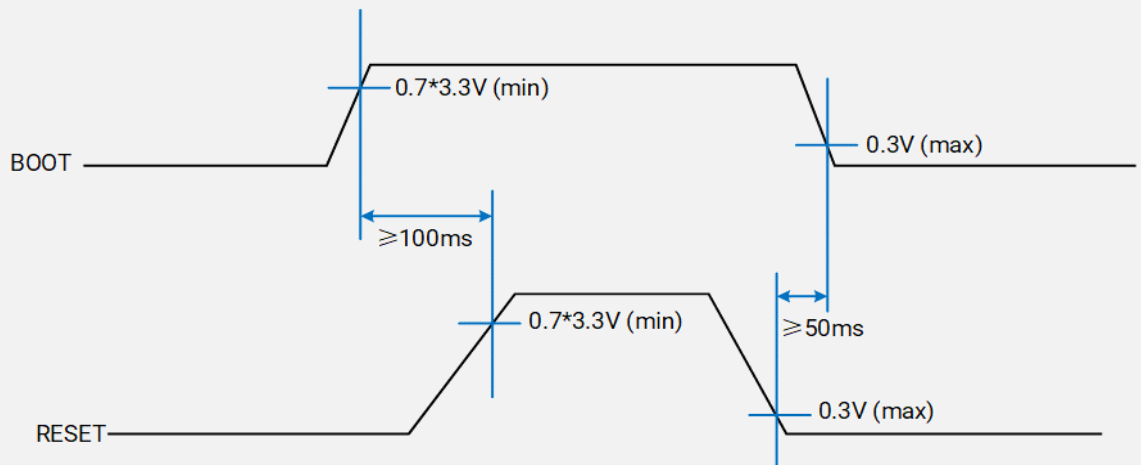

Figure 5 Mode switch
Users may switch the mode through BOOT and RESET pin. Please see details in Figure 5.
- Instructions in Figure 5 enables users to enter **BOOT Mode**. Users can download the firmware to upgrade in **BOOT Mode** through serial port. The system cannot reset automatically after